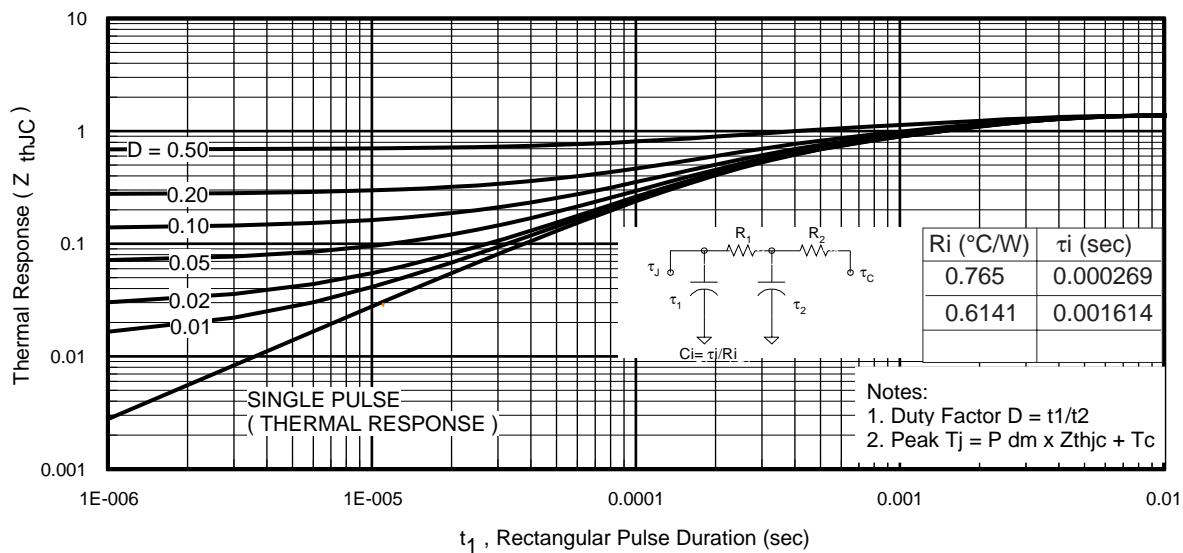
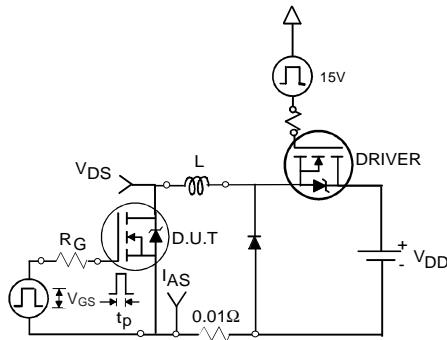

Fig 11. Maximum Effective Transient Thermal Impedance, Junction-to-Case
Fig 12a. Unclamped Inductive Test Circuit
| I_{AR} | Avalanche Current ① | See Fig.12a, 12b, 15, 16 | A |
3. Equation below based on circuit and waveforms shown in Figures 12a, 12b.
$Z_{thJC}(D, t_{av})$ = Transient thermal resistance, see figure 11)
- ① Repetitive rating; pulse width limited by max. junction temperature. (See fig. 11).
- ② Limited by T_{Jmax} , starting $T_J = 25^\circ C$, $L = 0.089mH$ $R_G = 25\Omega$, $I_{AS} = 36A$, $V_{GS} = 10V$. Part not recommended for use above this value.
- ③ Pulse width $\leq 1.0ms$; duty cycle $\leq 2\%$.
- ④ $C_{oss\ eff.}$ is a fixed capacitance that gives the same charging time as C_{oss} while V_{DS} is rising from 0 to 80% V_{DSS} .
- ⑤ Limited by T_{Jmax} , see Fig.12a, 12b, 15, 16 for typical repetitive avalanche performance.
- ⑥ This value determined from sample failure population. 100% tested to this value in production.
- ⑦ When mounted on 1" square PCB (FR-4 or G-10 Material). For recommended footprint and soldering techniques refer to application note #AN-994
- ⑧ R_θ is measured at T_J approximately $90^\circ C$